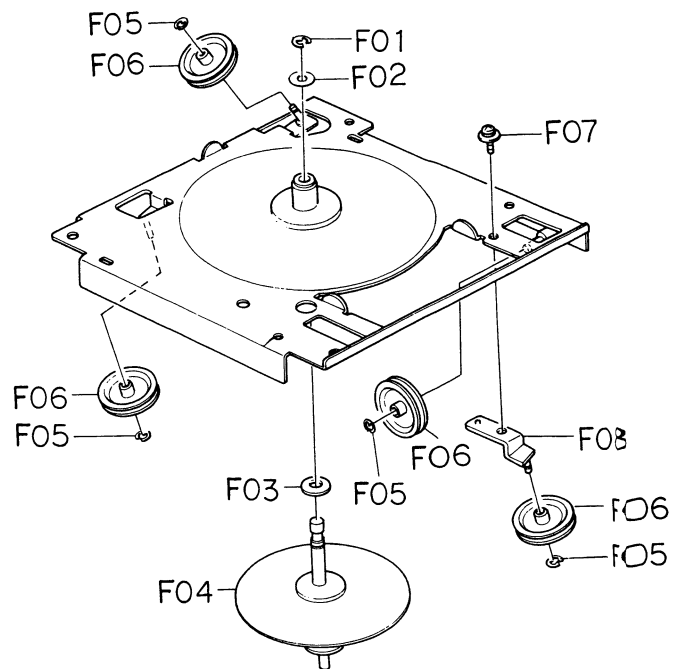

Fig. 3.6
Refer to Fig. 3.6. Remove dial pulley ass'y referring to item 3.4. Remove F01 and F02, then F03 and F04 (flywheel ass'y). Remove F05, then F06 (guide pulley). Remove F07, then F08 (pulley holder ass'y).